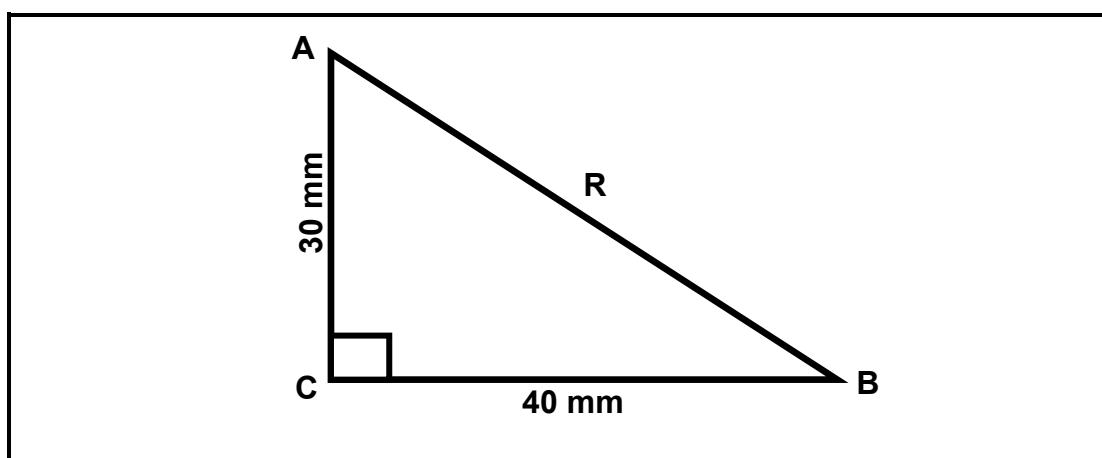

FIGURE 15.3
- 15.3 FIGURE 15.3 below shows triangle ABC.